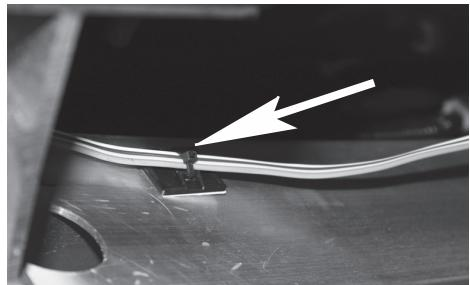

Figure 6
9. Underneath vehicle route 4-Flat along bumper frame to passenger side. Clean a spot on bumper and apply cable tie pad and secure 4-Flat with cable tie shown in **Figure 6**.